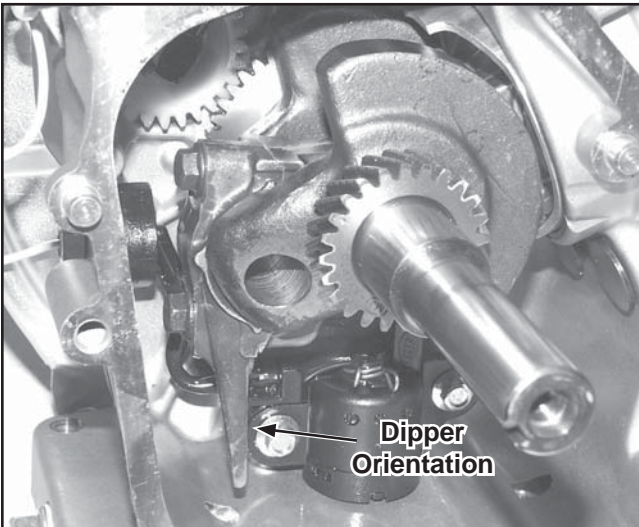

Figure 11-25. Rod Dipper Orientation.
6. Install the connecting rod cap to the connecting rod so the dipper is down, and the match marks are aligned. See Figures 11-25 and 11-26.